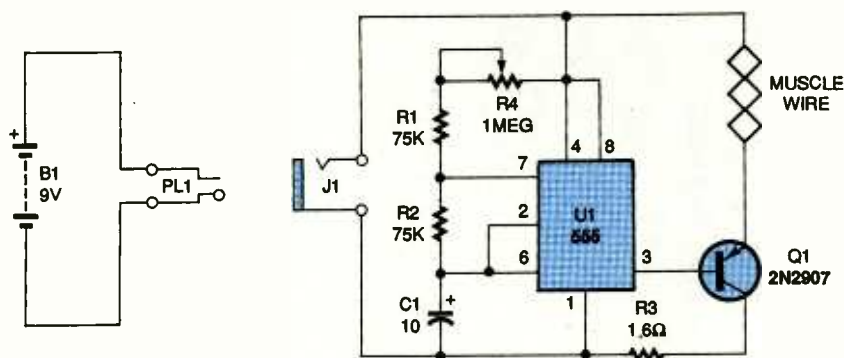

Fig. 1. This schematic shows how simple the Space Wings circuit is. A 555 timer and potentiometer R4 control the rate at which the Muscle Wire flexes.
**Circuit Description.** The schematic for the Space Wings circuit is shown in Fig. 1. Resistors R1 and R2, potentiometer R4, and capacitor C1 set the rate and duty cycle of U1 (a 555 timer). The